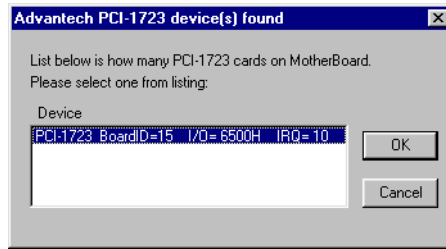
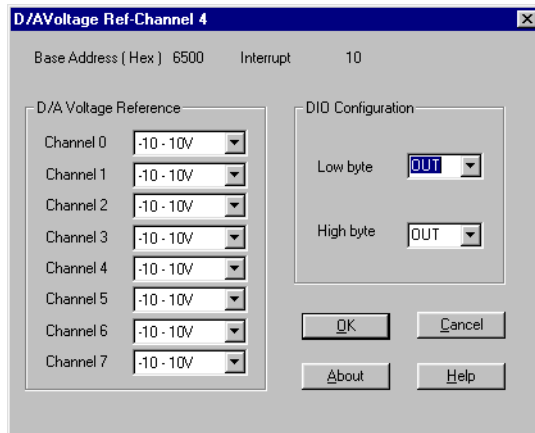

Figure 2.5: “Device(s) Found” Dialog Box
Figure 2.6: Device Setting Dialog Box
3. Scroll down the List of Devices box to find the device that you wish to install, then click the Add... button to evoke the Device(s) found dialog box such as one shown in Fig. 2-5. The Device(s) found dialog box lists all the installed devices on your system. Select the device you want to configure from the list box and press the OK button. After you have clicked OK, you will see a Device Setting dialog box such as the one in Fig. 2-6.
4. On the Device Setting dialog box (Fig. 2-6), you can configure the voltage output range for the 8 D/A channels.